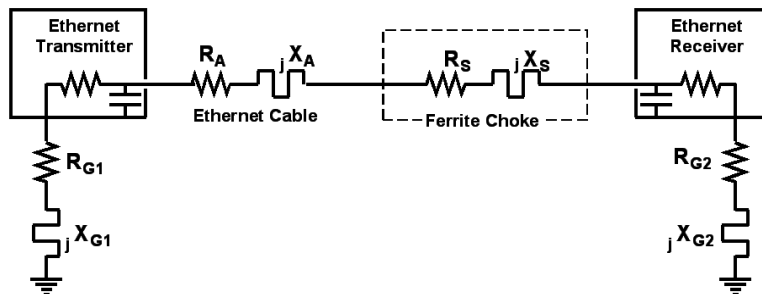

Fig 21 – Ethernet circuit, including "ground"
Fig 21, which includes the impedance of the path to "ground," makes it clear that there can be a lot of variables in this simple problem. Each of the X terms may be capacitive or inductive, and they will have different values at every frequency. Every wire in that series circuit will function as an antenna, radiating any noise current that it carries. Does that mean we must throw up our hands? Of course not. But it clearly shows why coming up with a number for how much suppression a given choke will yield is not a simple matter. Indeed, the best way to learn that for any given circuit is to wind a choke that provides the greatest impedance in a practical package and try it!
In the simple circuit above, the Ethernet transmitter can be seen to feed an unbalanced dipole, where the Ethernet cable is half of the dipole and a connection to "ground" via the power supply is the other! Fig 21 makes it clear that the current path is also a loop. We must never forget that our invisible "ground" circuit can be part of the antenna circuit, contributing both its length and radiation to the problem. And if the Ethernet device is a switch or hub that has multiple outputs, the Ethernet cables connected to each port become part of the equivalent circuit, and because each output includes a line driver, the cables connected to each output need suppression.
**Threshold Effect** Looking again at the series circuit of Fig 21, let's say that for a particular antenna (Ethernet cable) working into a particular piece of gear, the series impedance at the frequency of the interference is 300  $\Omega$ . If we are able reduce the RF current by 6 dB, (one half), the interference radiated by that cable will also drop by 6 dB in our ham receiver. To do that, a choke must add enough resistance to double the total impedance. In other words, we need to end up with 600  $\Omega$ . But what if the antenna circuit is capacitive and our choke is inductive at that frequency? Some of the impedance we are adding will increase the current because it resonates with the antenna, so we may need to add more than 300  $\Omega$  to hit 600  $\Omega$ ! ***How many times have you heard someone say, "ferrite beads don't work on this problem – I added one and nothing happened." In fact, they were simply below the threshold impedance needed in that particular circuit!*** Once we've hit that threshold, adding more series impedance continues to reduce the current flow. RF current is reduced by the ratio of the "before" and "after" values of the total series impedances. Since power is proportional to the square of the current, RF noise falls 6 dB per halving of the current flow. If the choke is suppressing the detection of RFI in other equipment (telephones, hi-fi systems, etc.), 6 dB less RF translates into a 12 dB reduction in detected RF (because all detection is square law).